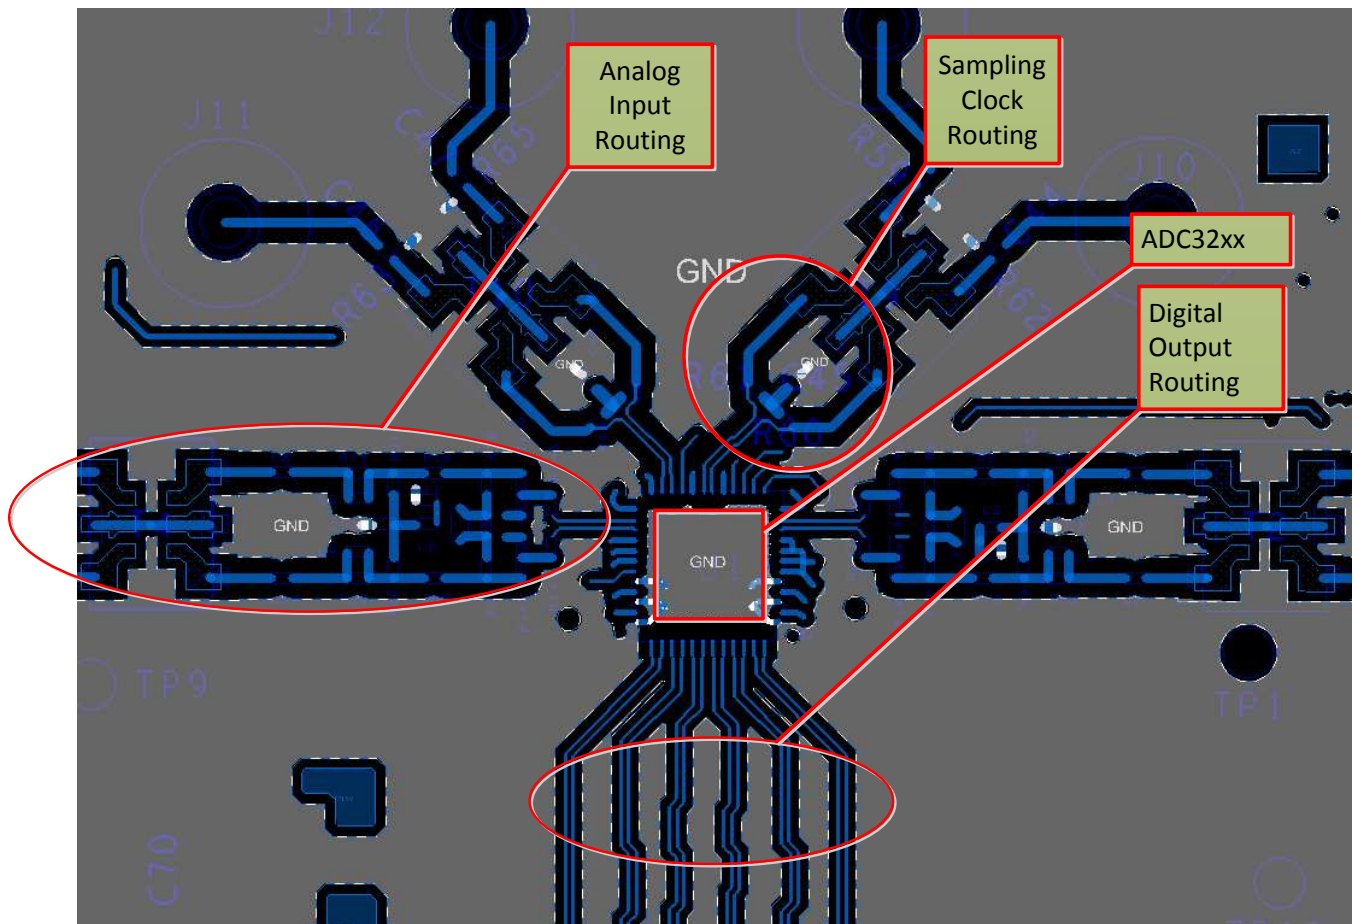

Figure 193. Typical Layout of the ADC322x Board
The ADC322x EVM layout can be used as a reference layout to obtain the best performance. A layout diagram of the EVM top layer is provided in Figure 193. Some important points to remember during laying out the board are:
1. Analog inputs are located on opposite sides of the device pin out to ensure minimum crosstalk on the package level. To minimize crosstalk onboard, the analog inputs must exit the pin out in opposite directions, as shown in the reference layout of Figure 193 as much as possible.
2. In the device pin out, the sampling clock is located on a side perpendicular to the analog inputs in order to minimize coupling between them. This configuration is also maintained on the reference layout of Figure 193 as much as possible.